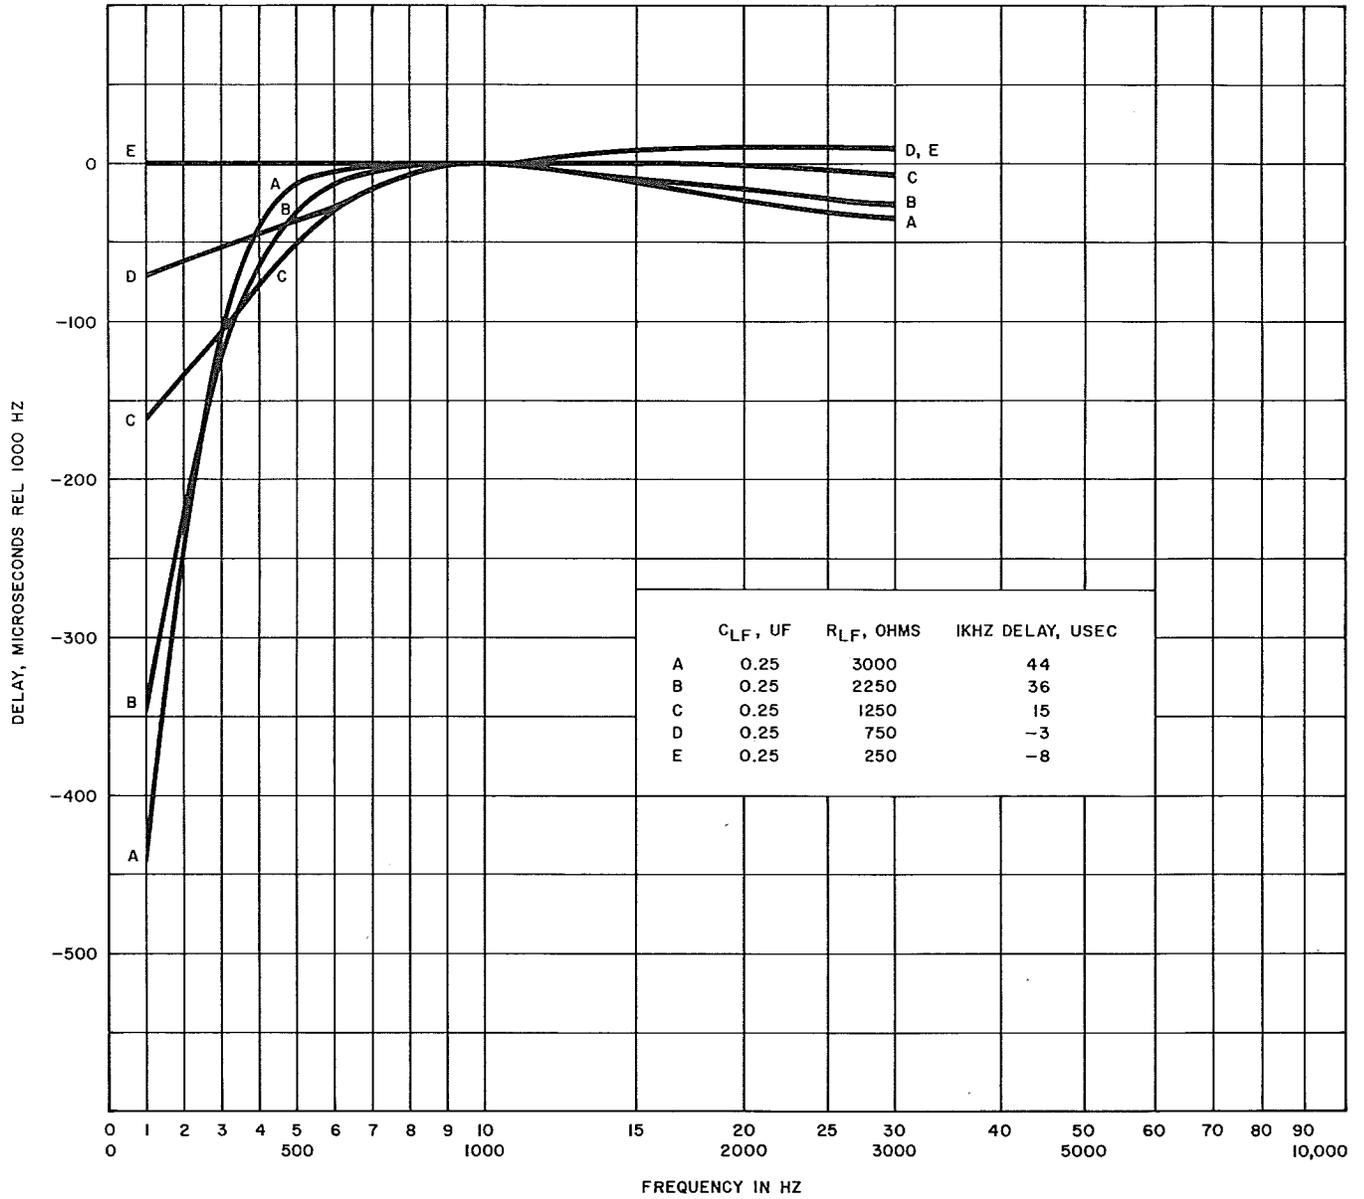
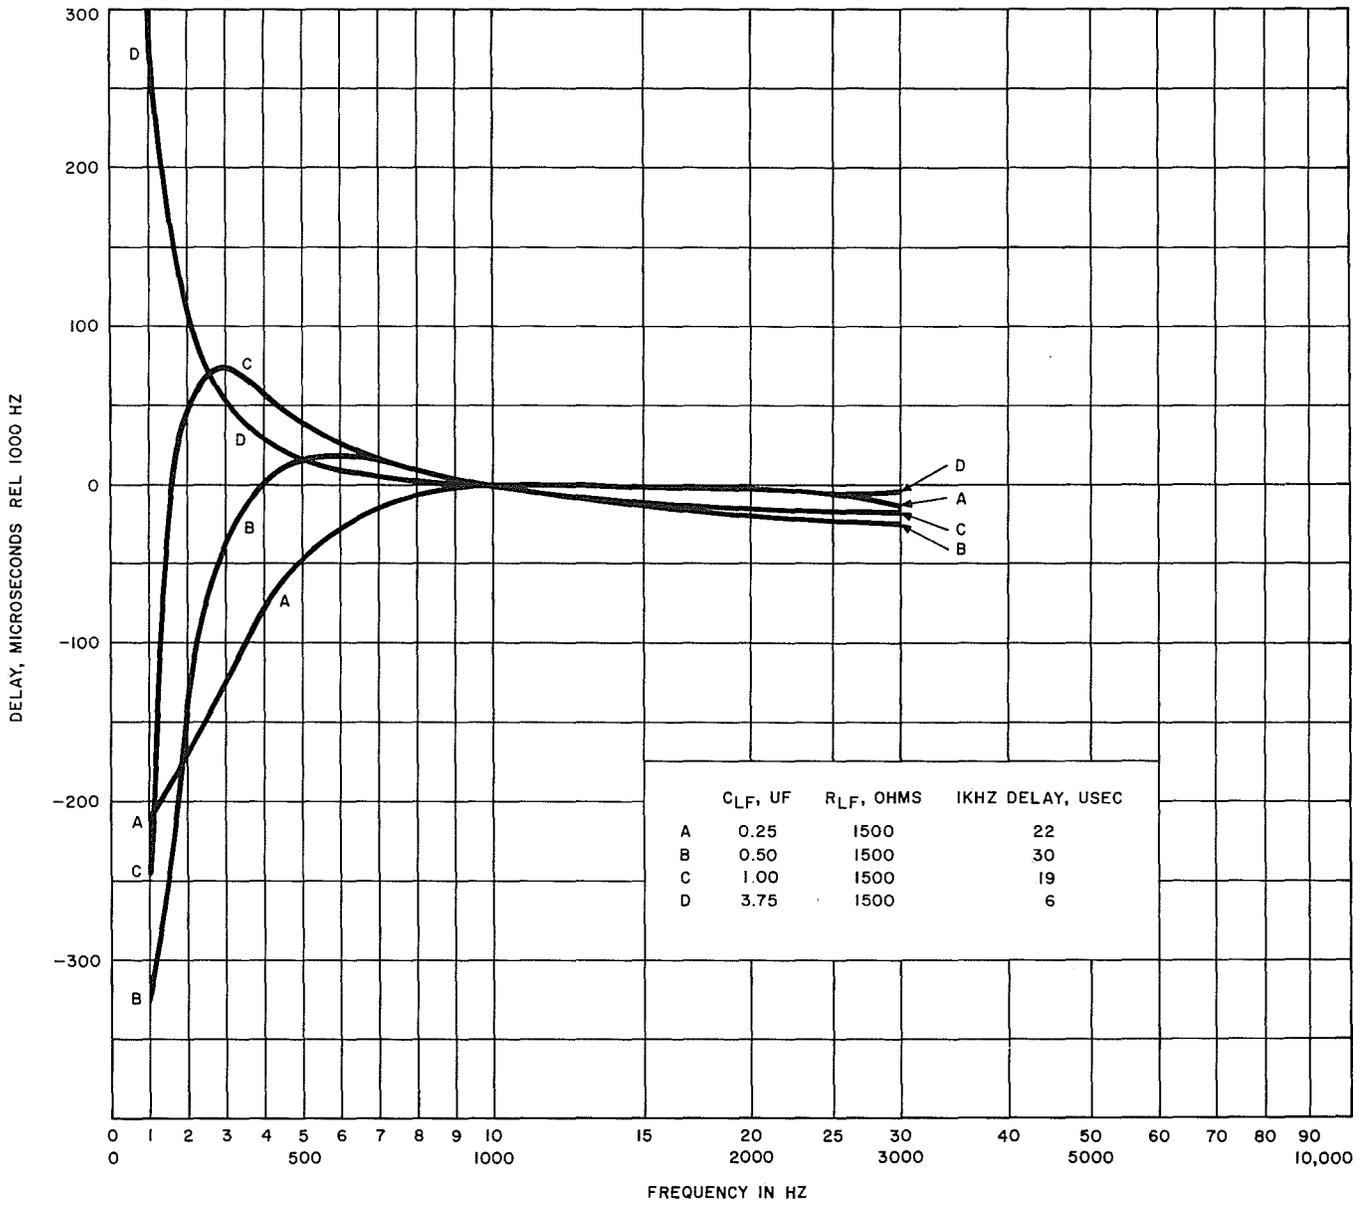

Fig. 7—359D Equalizer, Low-Frequency Section—Delay-Frequency Characteristics—Between 600-Ohm Impedances—Varying R_{LF} for $C_{LF} = 0.25 \mu F$
Fig. 8—359D Equalizer, Low-Frequency Section—Delay-Frequency Characteristics—Between 600-Ohm Impedances—Varying C_{LF} for $R_{LF} = 1500$ Ohms
3.07 While the series arm, low-frequency components R_{LF} and C_{LF} provide compensation for amplitude distortion, they introduce delay distortion at the same time. Figures 7 and 8 illustrate typical delay-frequency characteristics obtained by various combinations of C_{LF} and R_{LF} . Figure 7 illustrates results of keeping C_{LF} constant at $0.25 \mu F$ and varying R_{LF} with the HF section out of the circuit; Fig. 8 shows the results of keeping R_{LF} constant at 1500 ohms and varying C_{LF} with the HF section out of the circuit.